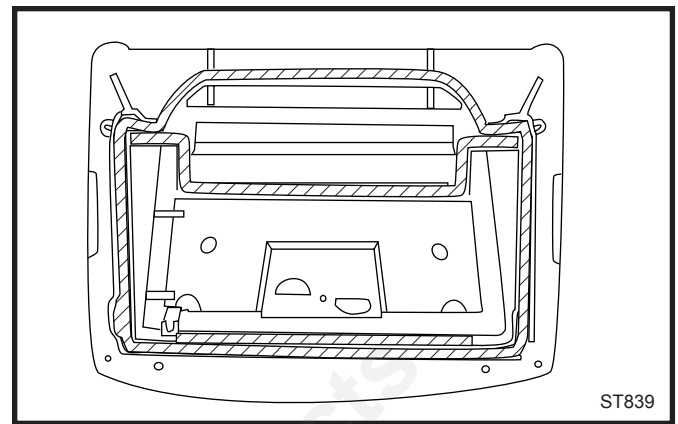

**Fig. 4** Cement bottom plate.
7. Cement the bottom of the new stove back as indicated in Figure 4. Place the old package support plate into position in the stove back.